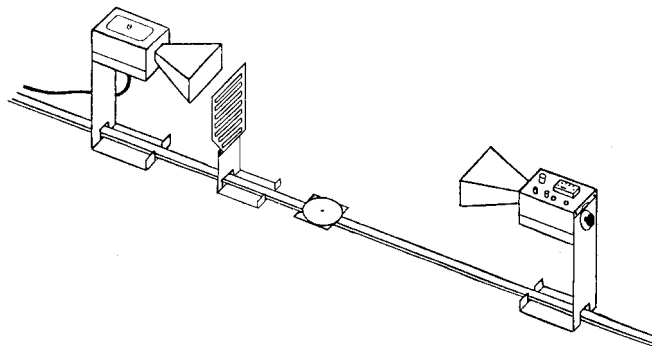

Figure 8: Equipment Setup
1. Arrange the equipment as shown in figure 8 but without the polarizer and adjust the Receiver controls for nearly full-scale meter deflection.
4. Setup the equipment as shown in figure 8, and reset the angle of rotation of the Receiver for vertical polarization (the horn should be oriented as shown in the figure).